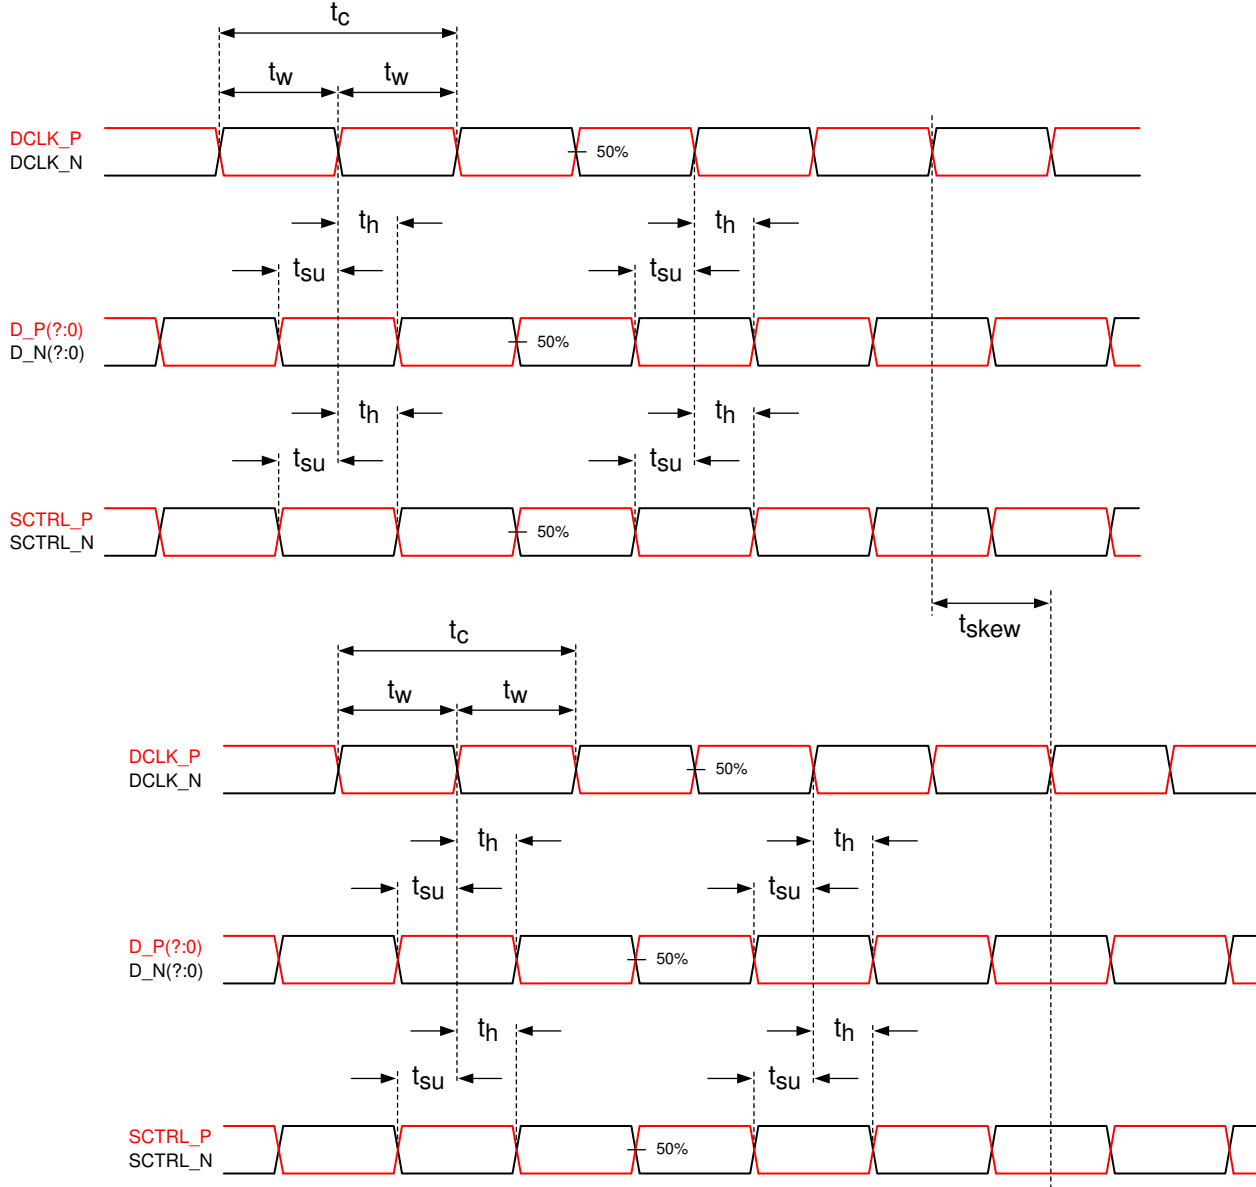

图 5-6. Timing Requirements
- (9) See LVDS Timing Requirements in 节 5.8 and 图 5-6.